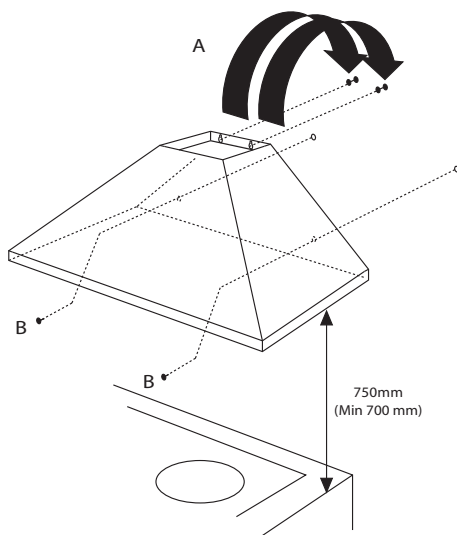

Fig 4.
- The top two hood securing positions are keyholeslots; screw these screws A in first leaving approximately 2 mm between the screw head and the wall (fig 4.)